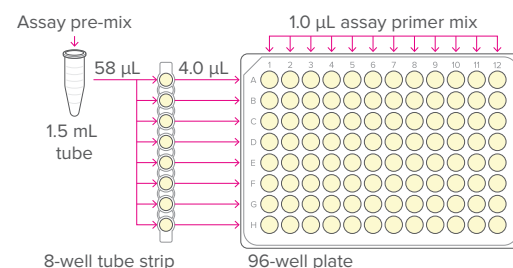

Figure 1. Preparation of assay mixes
- Pipet 58  $\mu\text{L}$  of the assay pre-mix into each well of a new 8-well strip (see Figure 1).